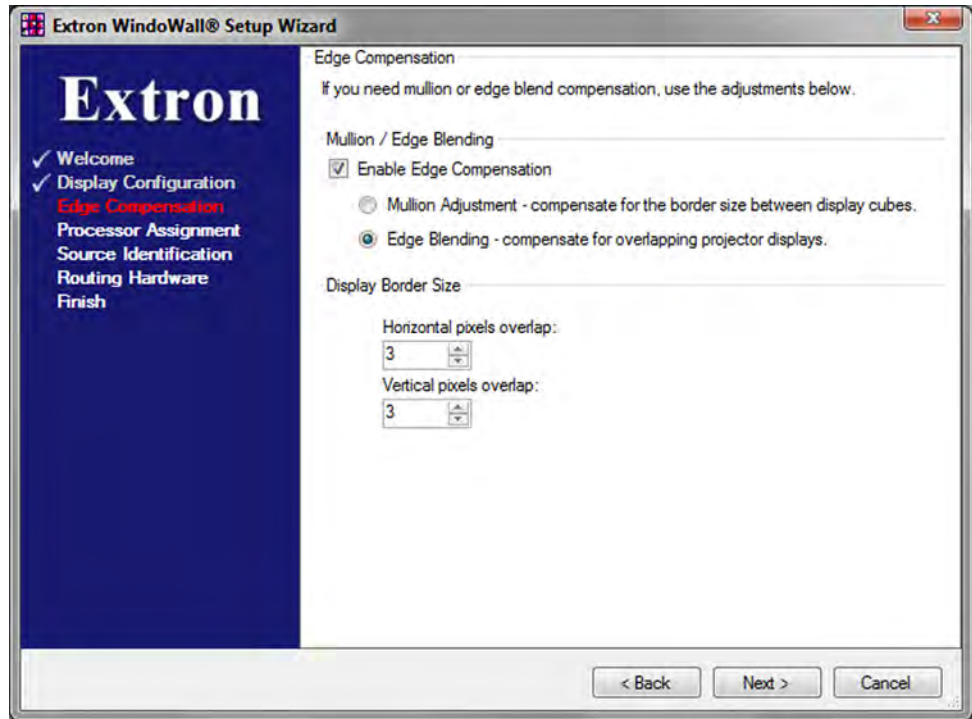

Figure 16. Edge Blending – Setup Wizard
- **Edge Blending radio button** — Select this button if you are using projectors to display multiple images on one screen, and you need to compensate for overlapping edges. The Edge Compensation screen changes as shown in figure 16 on the next page.